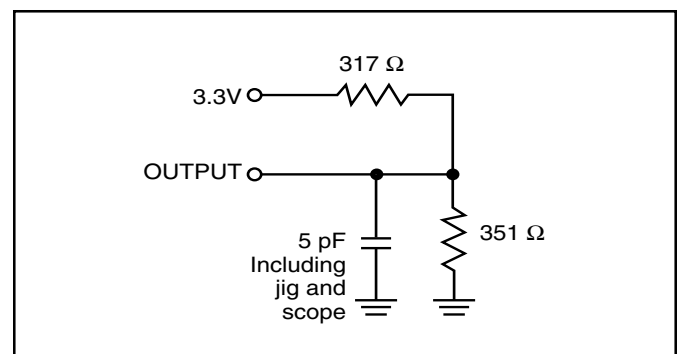

Figure 2
2. Tested with the loading specified in Figure 2. Transition is measured ± 500 mV from steady-state voltage. Not 100% tested.
2. Tested with the load in Figure 2. Transition is measured ± 500 mV from steady-state voltage. Not 100% tested.